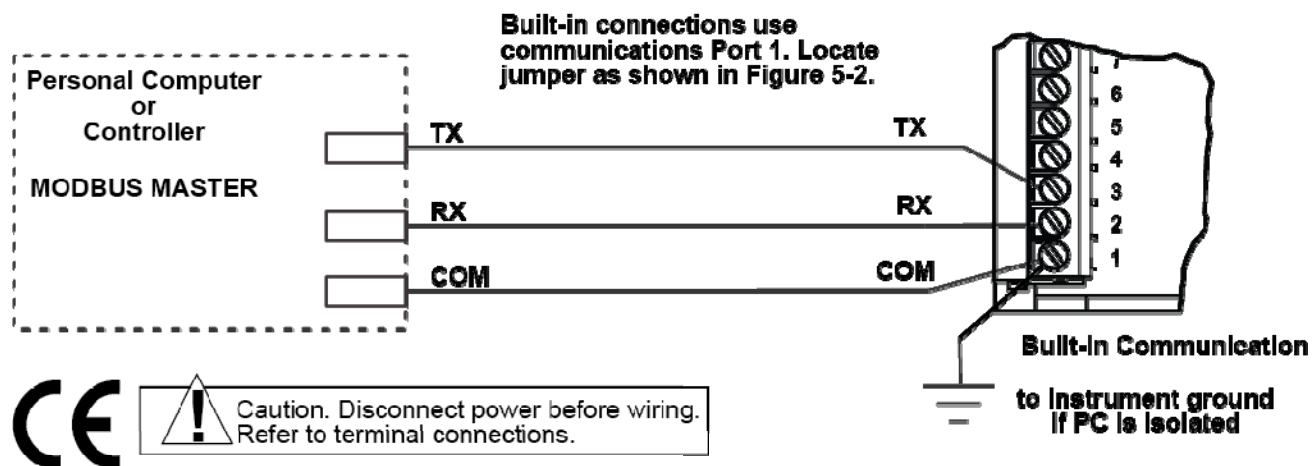
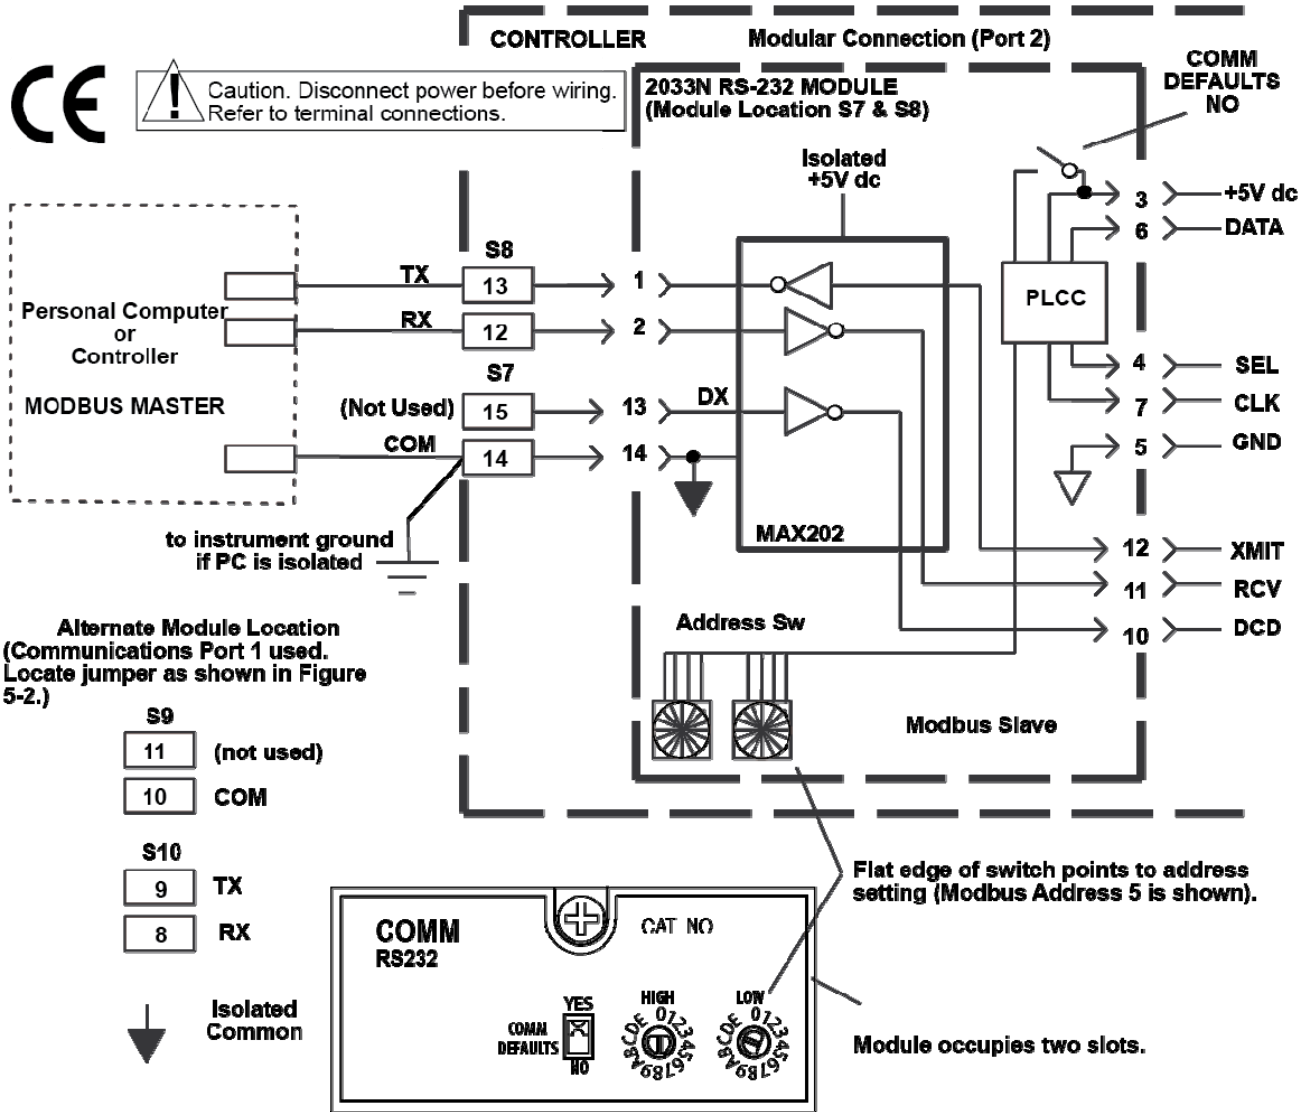

Figure 5-4. Typical Network Connections for Built-In Modbus RS-232 Communication
Figure 5-5. Typical Network Connections for Modular Modbus RS-232 Communication
- If connections are made to the built-in communication terminals, Figure 5-1, the connections must support RS-232 communication as shown in Figure 5-4, otherwise the RS-232 port in the front panel is not functional.
Connections for a typical RS-232 Modbus network using the built-in circuit is shown in Figure 5-4, and connections using the modular circuit are shown in Figure 5-5. Either a computer or the controller can act as the Modbus master.